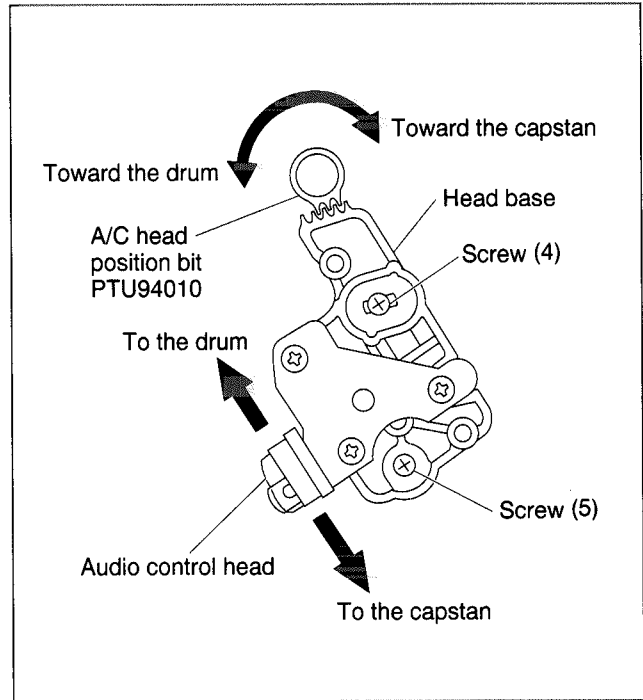

Fig. 2-3-6
- (1) Connect the oscilloscope to TP106(PB.FM) of the main board assembly and to TP111(D.FF) of the main board assembly for external sync connection.
- (2) Play the alignment tape MHPE and observe the FM waveforms.
- (3) Press the channel buttons (+, -) simultaneously during playback to enter the manual tracking mode. (This also brings tracking to the centre.)
- (4) Loosen screws (4) and (5) so that the A/C head position bit (PTU94010) is set as indicated in Fig.2-3-6.
- (5) Turn the A/C head position bit fully toward the capstan. Then turn it back gradually toward the drum and stop on the second peak point position of the FM waveform output level. Then tighten the screw (4) temporarily.